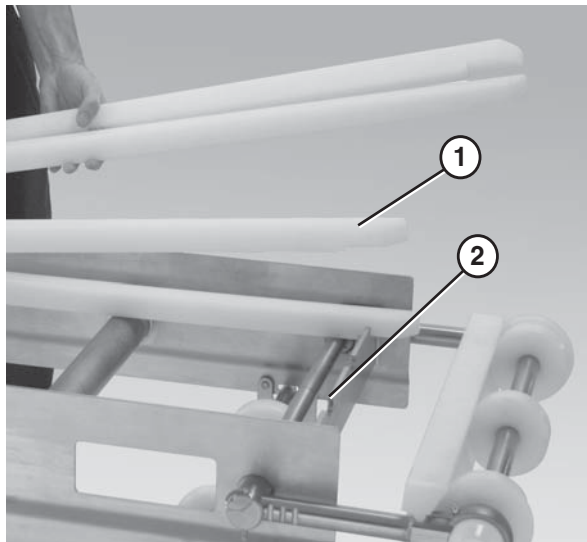

Figure 29
1. Position the wear strips (Figure 29, item 1) on the frame.
2. Make sure the wear strips are situated securely in the frame slots (Figure 29, item 2).